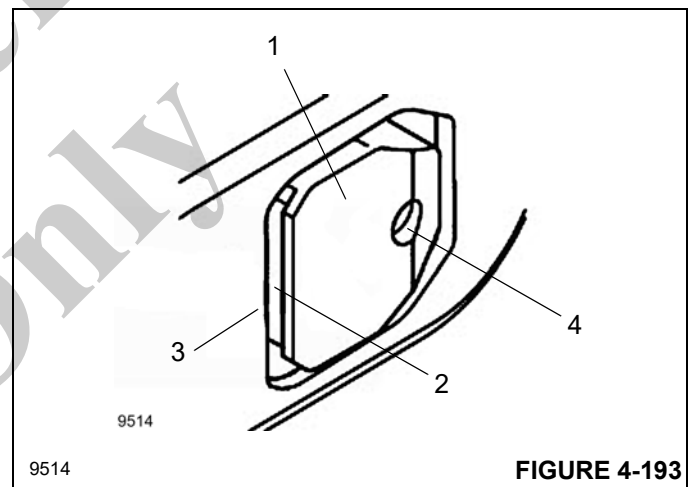

FIGURE 4-193
You can only lock or unlock a telescopic section manually if the recess (2), (Figure 4-193) in the locking pin (1) no longer engages in the telescopic section (3) above it.
- Remove the grease fitting from the bore hole (4), (Figure 4-193).
- Insert a screw into the hole (4). The locking pin (1) is retracted in the process. You can assist this process by lightly hammering on the locking pins.
- Tighten the screw against the spring load until the locking pin (1) is pulled in as far as it will go and is situated behind the side wall of the telescopic section.
- Retract the telescopic section until the locking pin (1), (Figure 4-193) is in the middle of the opening.
- Remove the screw from the bore hole (4).